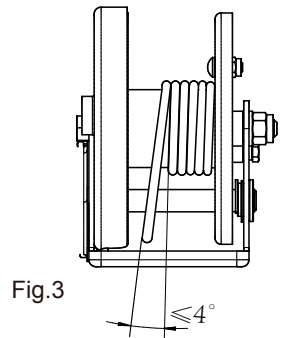

Fig.3
- Fitting the winch with the fleet angle no more than 4° . (Fig.3)